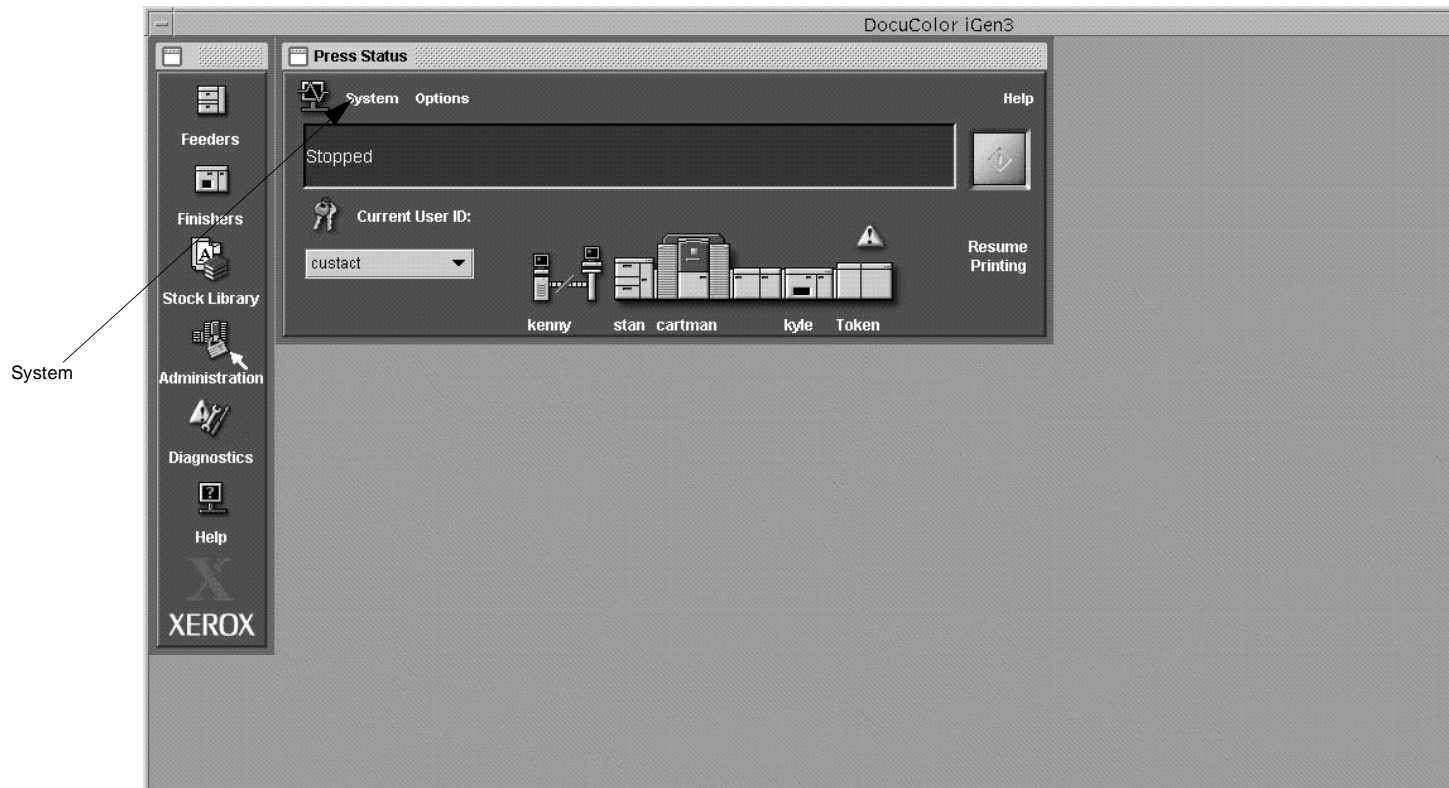
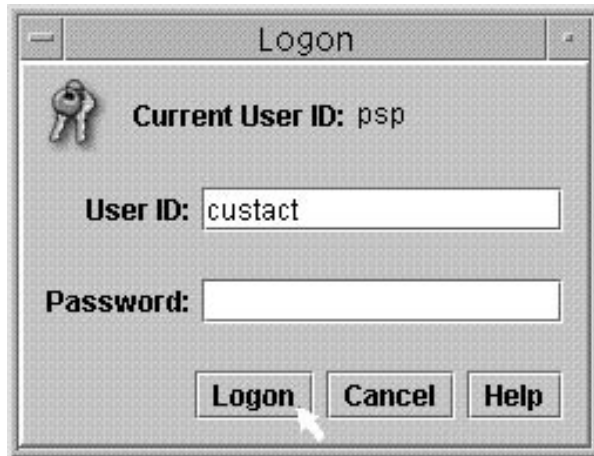

Figure 6-56 The Press Status Window
Figure 6-57 The Logon Window
1. Go to the **Press Status** Window, click **System**, as shown in Figure 6-56. Select **Logon** from the drop down menu. This will bring up the **Logon** Window, as shown in Figure 6-57.